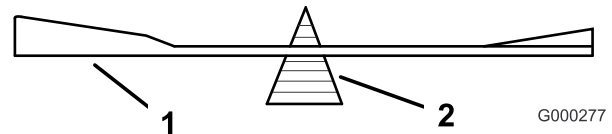

Figure 68
2. Check the balance of the blade by putting it on a blade balancer (Figure 68). If the blade stays in a horizontal position, the blade is balanced and can be used. If the blade is not balanced, file some metal off the end of the sail area only. Repeat this procedure until the blade is balanced.